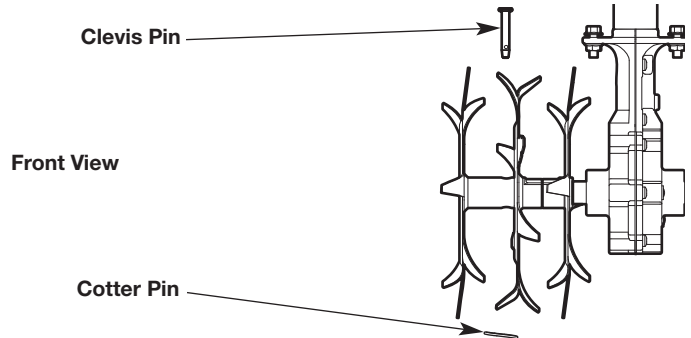

Fig. 11
1. Remove the cotter pin from the clevis pin (Fig. 11). Remove the clevis pin from the double tine and tine shaft.
3. Insert a clevis pin through the aligned holes (Fig. 11). Insert a cotter pin into the clevis pin.